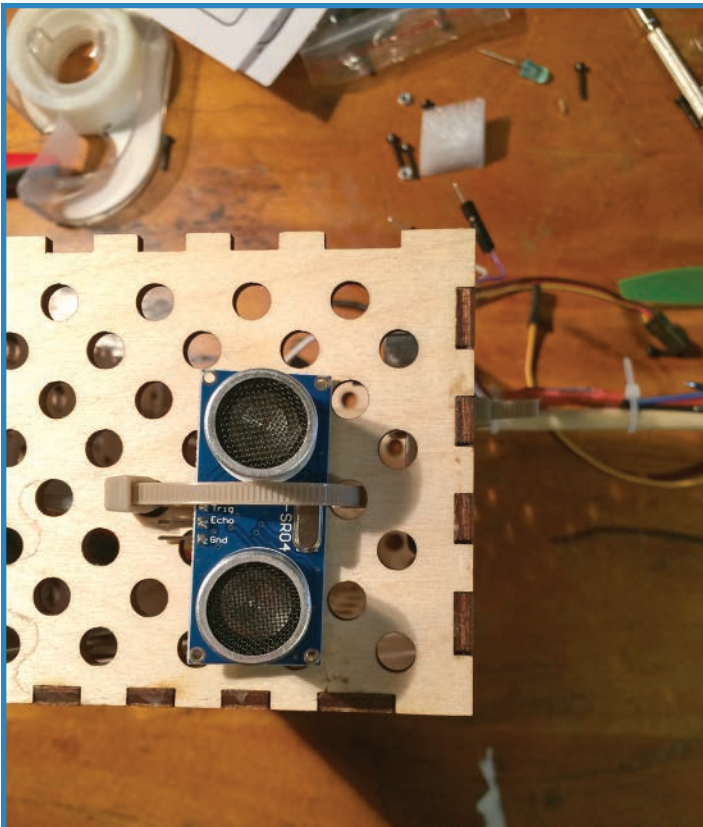

FIGURE 7.21 Ultrasonic sensors are the eyes of the blimp.
Instead of the receiver, we'll add an Arduino to the gondola (see Figure 7.21) as well as a pair of ultrasonic sensors. These electronics will help control the Arduino autonomously.
1. Use zip ties to attach the ultrasonic sensors (one is visible in Figure 7.21) to the gondola—one pointing down and one pointing forward.